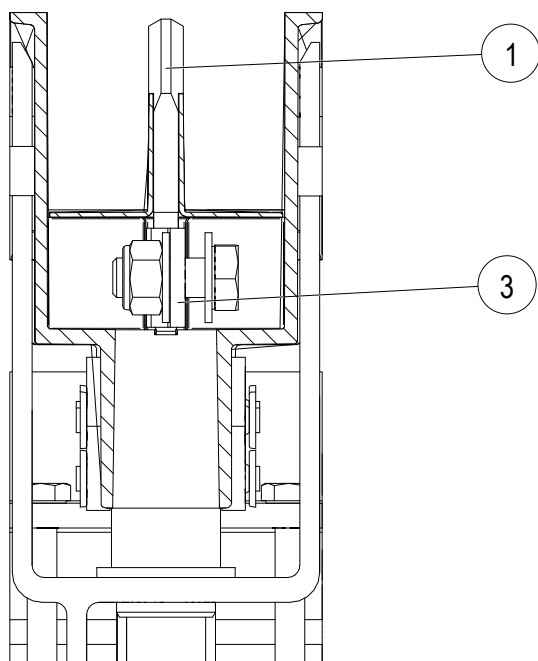

Fig. 126: Sliding contact (item 1) is positioned in the contact sheet (item 3)
- The sliding contact (item 1) must be inserted between the contact sheet (item 3) and must not be positioned next to the contact sheet (see Fig. 126).